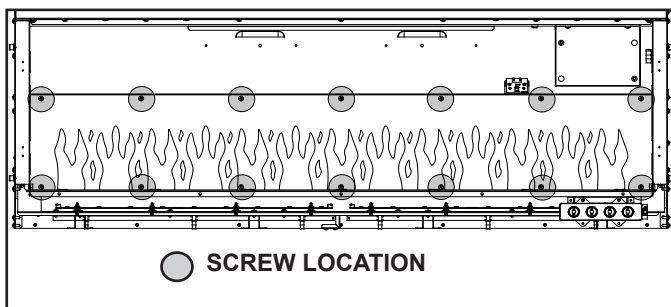

Figure 16. Flame Screen Location
- Remove Phillips screws at the top and bottom of the flame screen. See Figure 16.